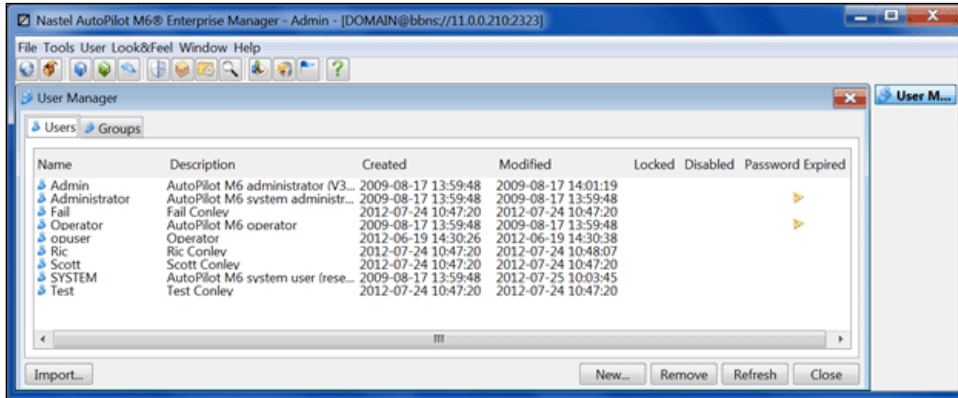

Figure 4-6. User Manager: Groups Folder
**Groups:** The *Group* folder (Figure 4-6) lists all users groups in your M6 network. There are two default user groups in the installation of M6: *Administrators* and *Operators*. Only the Admin (or those with Admin privileges) can add, delete, and modify the groups. The *Group* folder provides information about the user group and links you to individual group profiles. The group list provides the following information listed in Table 4-4.